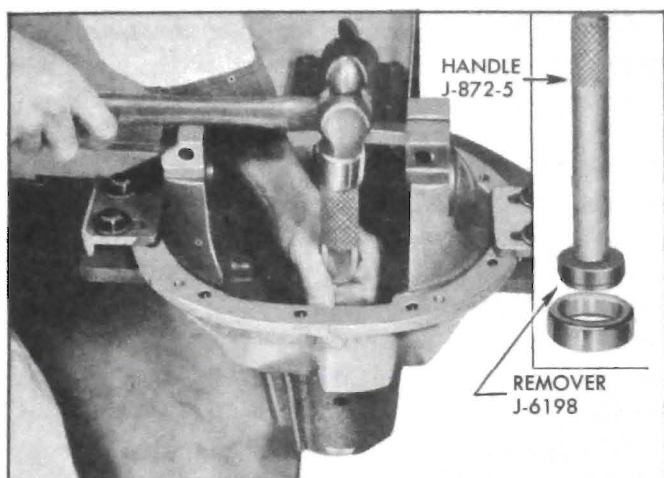

Figure 6-18—Removing Front Pinion Bearing Outer Race
6. Pry pinion oil seal from carrier, being careful not to damage front pinion bearing. If front pinion bearing is to be replaced, drive outer race from carrier using Remover J-6198 with Handle J-872-5. See figure 6-18.